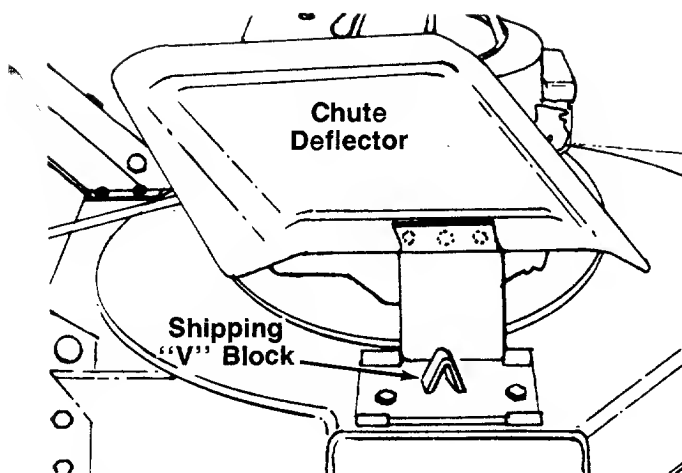

FIGURE 9.
1. The chute deflector on your mower is held in an upright position by a "V" block for shipping purposes only. This "V" block must be removed and discarded before the mower is put into operation. See figure 9.
Adjustment may be made by removing and moving axle bolts to desired position. Cutting heights will be raised as axle bolts are moved to a lower hole and lowered as axle bolts are moved to a higher hole in the deck. All axle bolts must be mounted in the same relative position. Belleville washers must be assembled so that the cupped side of the washers are against the deck. Refer to figure 9.